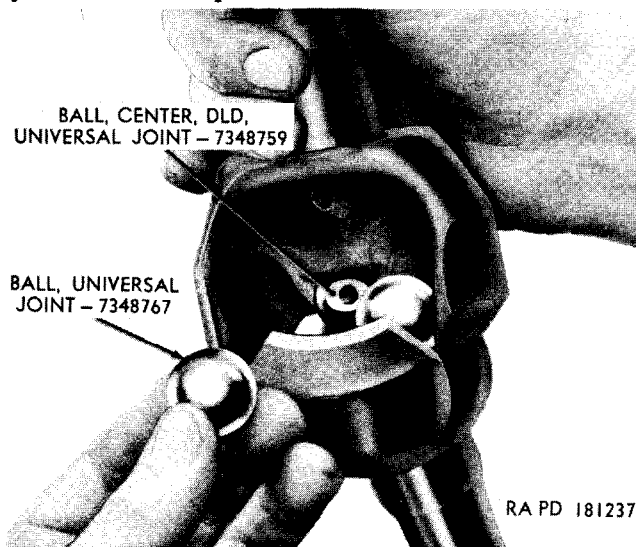

Figure 101. Removing front axle universal joint ball.
- (2) *Dislodge universal joint center ball pin.* Hold axle shaft with universal joint assembly in a vertical position and bounce it on a suitable block of wood until the universal joint center ball pin drops clear of the universal joint center ball.
- (3) *Remove universal joint balls* (fig. 101). Secure outer end of shaft with universal joint assembly in vise with jaw protectors. Bend axle shaft so universal joint drilled center ball can be rotated until its grooved surface faces the first universal joint ball that is to be removed. With axle shaft in bent position, raise axle shaft until first universal joint ball to be removed slides against groove of universal joint drilled center ball, and remove universal joint ball. Remove the remaining three universal joint balls and separate axle shafts. Tap short end of axle shaft to remove universal joint center ball pin.
- (3) *Install universal joint balls* (fig. 101). Slip three universal joint balls in their raceways. Turn the universal joint center drilled ball until its groove alines with remaining universal joint ball to be installed. Insert the remaining universal joint ball into its raceway. Rotate the universal joint center ball until hole in ball alines with universal joint center ball pinhole in outer axle shaft. Remove axle assembly from vise. Turn axle assembly over so that universal joint center ball pin drops into hole of universal joint center ball. Install the universal joint pin and stake pin in place on both sides.